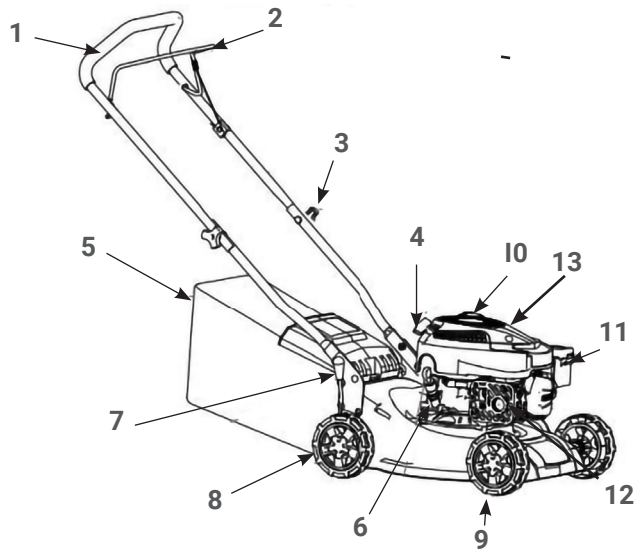

Fig.1
- Locate the two lower handle arms onto the peg protruding from the mounting brackets (fig.1).
- With the machine on level surface and after unscrewing the fuel tank cap (Fig.1) add the fuel, pouring it in up to the collar of the fuel tank but **DO NOT** overfill it to avoid over-spill.